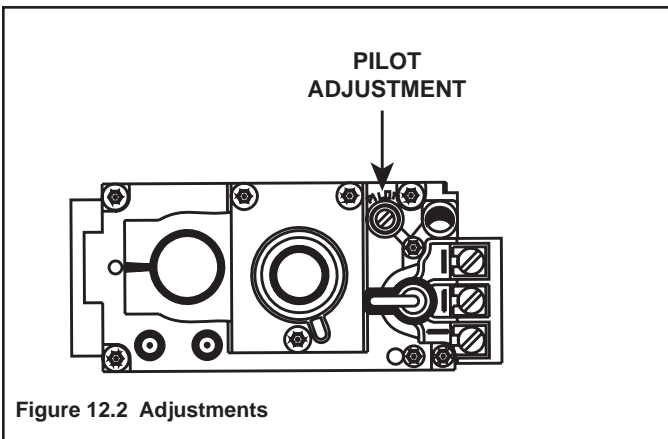

Figure 12.2 Adjustments
- If adjustment is needed remove cap screw from gas valve using 1/8 inch standard screwdriver (see Figure 12.2).